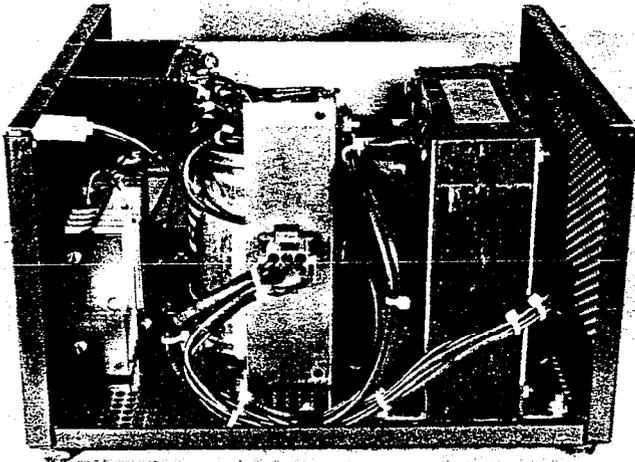

FIGURE 10—OPEN EPSA
02.17 The harness is secured to the chassis with a cable clamp (Figure 10). Loosen the screw and nut slightly to allow movement of the harness.
02.24 Align the two tan-colored PBBU pins with the two holes in the heat sink (Figure 10). Press the pins into the holes until they catch.